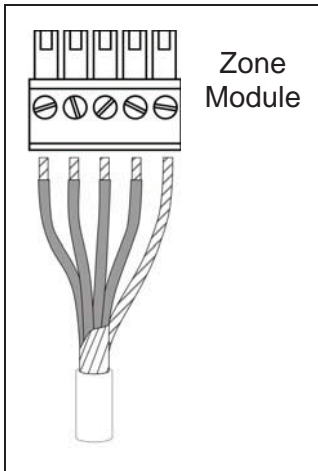

Fig. 2
- 1) The shield will be connected only to one connector in the system, and that will be the ground connector in the Airzone Controller (Fig. 2).